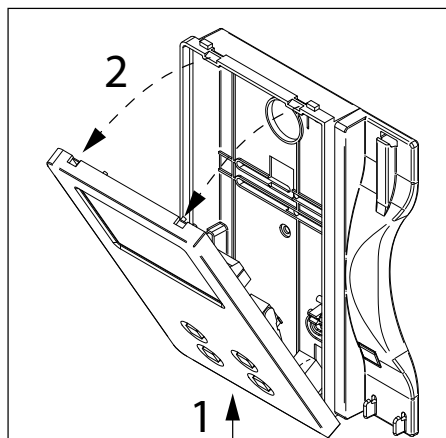

Fig. 1
1. In order to install the videophone, it is necessary to remove the cover, which contains all the electronics, from the base: firstly disconnect the handset from the videophone (by removing its plug from the videophone), then press lightly the bottom part of the videophone and simultaneously pulling outwards the upper part as shown in **Fig. 1**.